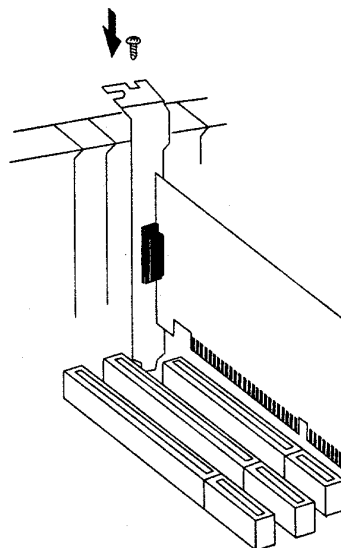

Figure 1
3. Select an available 32-bit slot for the Serial Board. Refer to Figure 1.
5. Carefully align the bus connector of the board with the slot of the motherboard (Figure 1) and push down firmly, but gently, until board is seated.